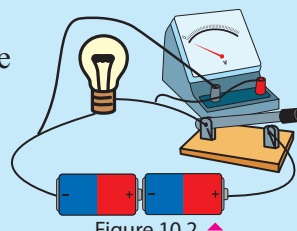

Figure 10.2 ▲
- Then connect two dry cells with the bulb and the switch as shown in Figure 10.2.
Circuit in Figure 10.2